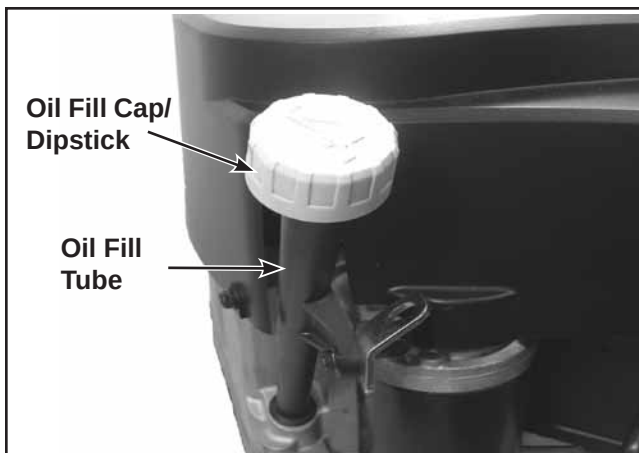
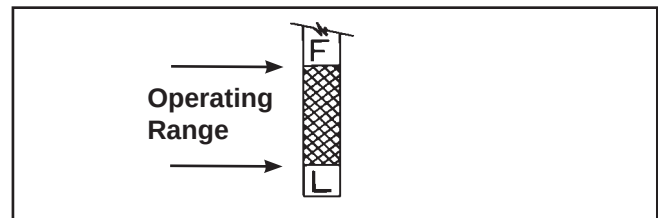

Figure 10-85. Oil Fill Cap/Dipstick and Oil Fill Tube.
Figure 10-87. Oil Level Marks on Dipstick (Typical).
5. Add oil to bring the level up to the F/Full mark. Turn the oil fill cap/dipstick counterclockwise until the oil fill cap drops down to the lowest point of the thread leads. **Do not** thread the oil fill cap onto the tube. See Figure 10-85 and 10-86. The oil level needs to be within the operating range. See Figure 10-87. If low, add oil of the proper type up to the full mark. If oil is above "F" or FULL mark, drain oil to reach proper level. Reinstall the oil fill cap/dipstick and thread until tight.